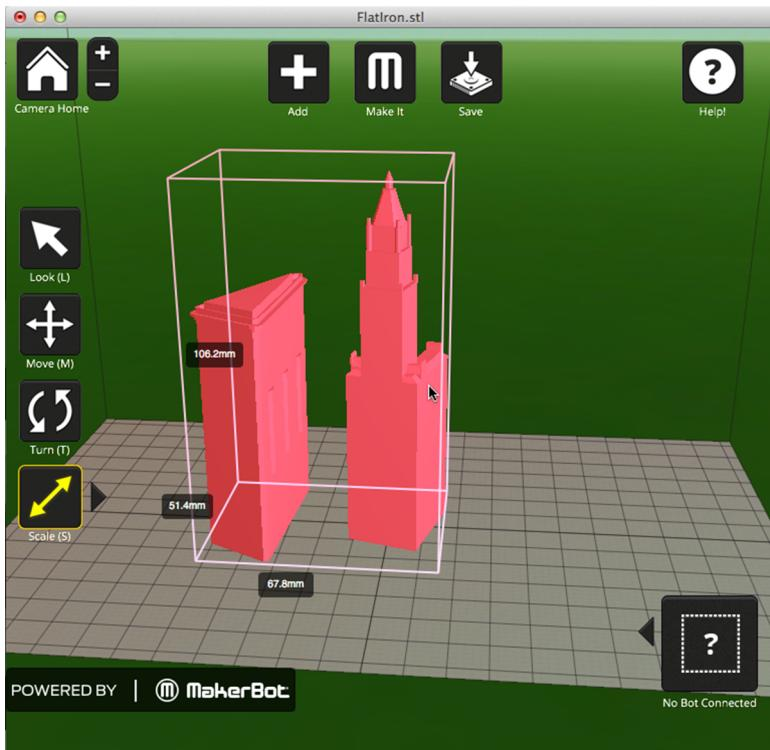

Figure 6-29. Scaling the Flatiron and Woolworth buildings
7. Select the Scale button. Click and drag to change the size of both models, as shown in Figure 6-29.